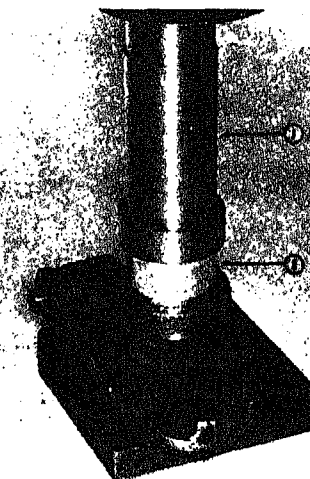

Fig. 3-1-3. Installing bushing
If rocker lever bushings were found unserviceable, press out (1, Fig. 3-1-3). Align oil hole in precision steel bushing (2) and oil hole in rocker lever and press bushing in. Locate bushing so split is not at bottom or load area in lever. Check lever over shaft to make sure bushing has not "collapsed".